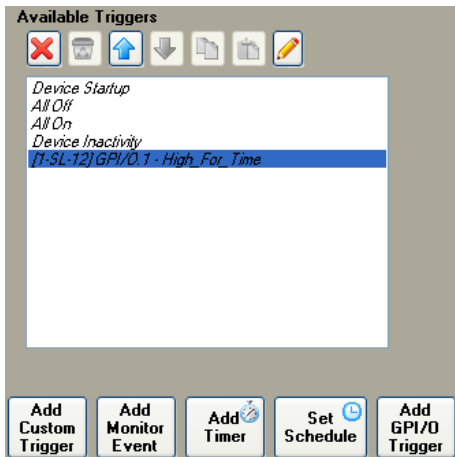

Figure 90: Selecting the GPIO Trigger from the Available Triggers List
- Select the GPIO trigger from the list of available triggers (see Figure 90):